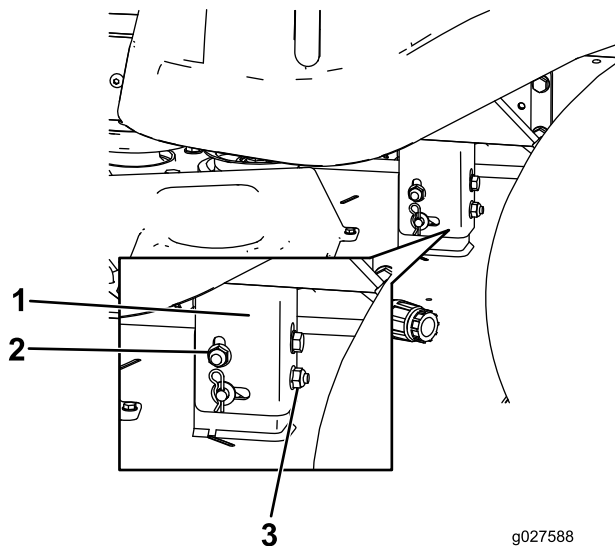

Figure 55
8. Raise or lower the left side of the mower deck by rotating the rear locking nut (Figure 55).
Note: Rotate the rear locking nut clockwise to raise the mower deck; rotate the rear locking nut counter-clockwise to lower the mower deck (Figure 55).